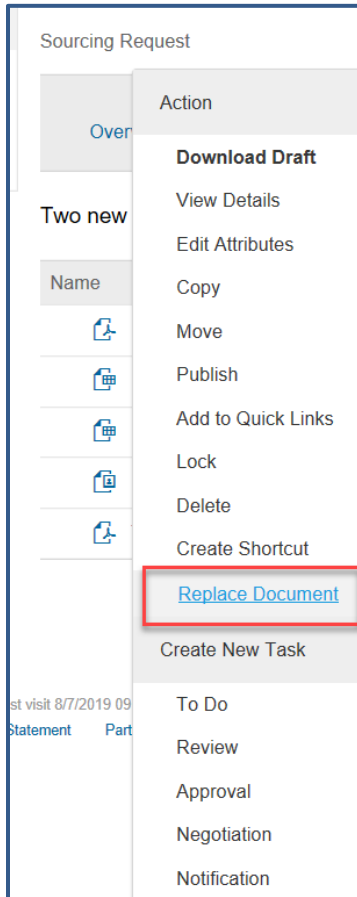
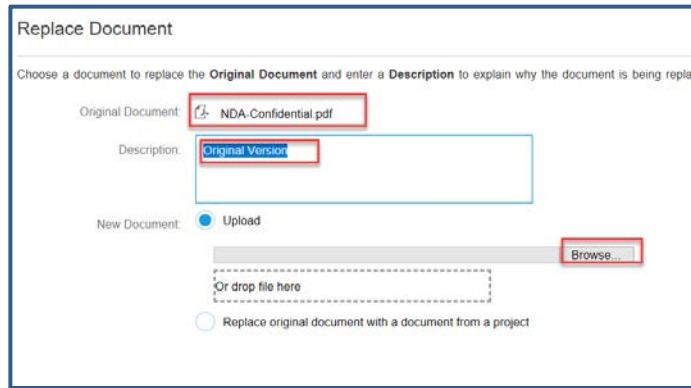

Figure 18
Figure 19
3. Select **Replace Document** from the menu (Figure 18). The Replace Document screen appears (Figure 19).